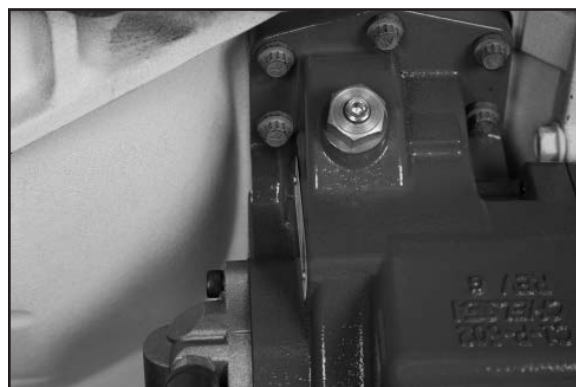

Fig. 20
7. Install the remaining capscrews. Torque all to 40-50 lbs-ft [54-68 Nm] (**Fig. 20**).